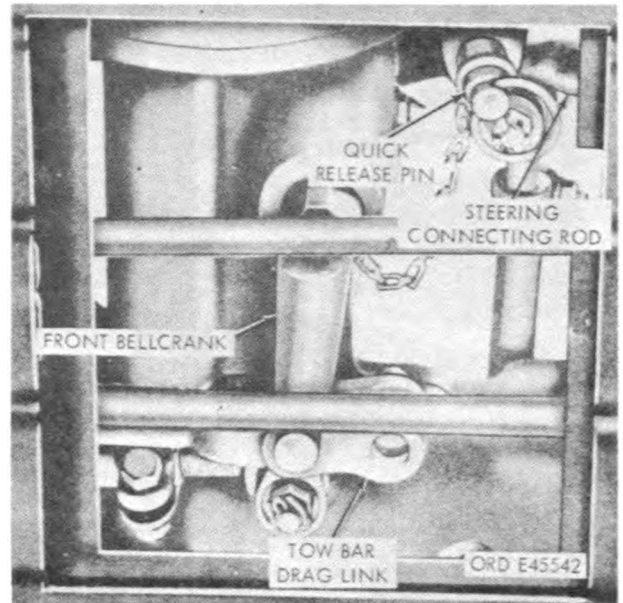

Figure 2-27. Steering access lid removed showing two-wheel steering connected.
- (2) To change from four- to two-wheel steering, turn steering wheel in direction necessary to place front wheels in a straightahead position. Pull out quick-release pin securing front end of steering connecting rod to tow bar drag link (fig. 2-27). Swing the end to the right to align with the hole in the anchor bracket on the right frame tube. Replace quick-release pin.
- (1) Make sure vehicle to be towed is in two-wheel steer (fig. 2-27).